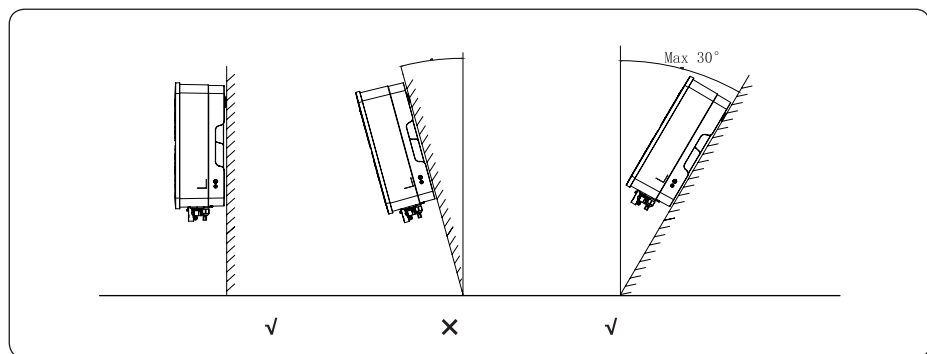

Figure 4-3 Recommended installation angle
4.1.3 The installation angle of the inverter is recommended as shown in Figure 4-3: